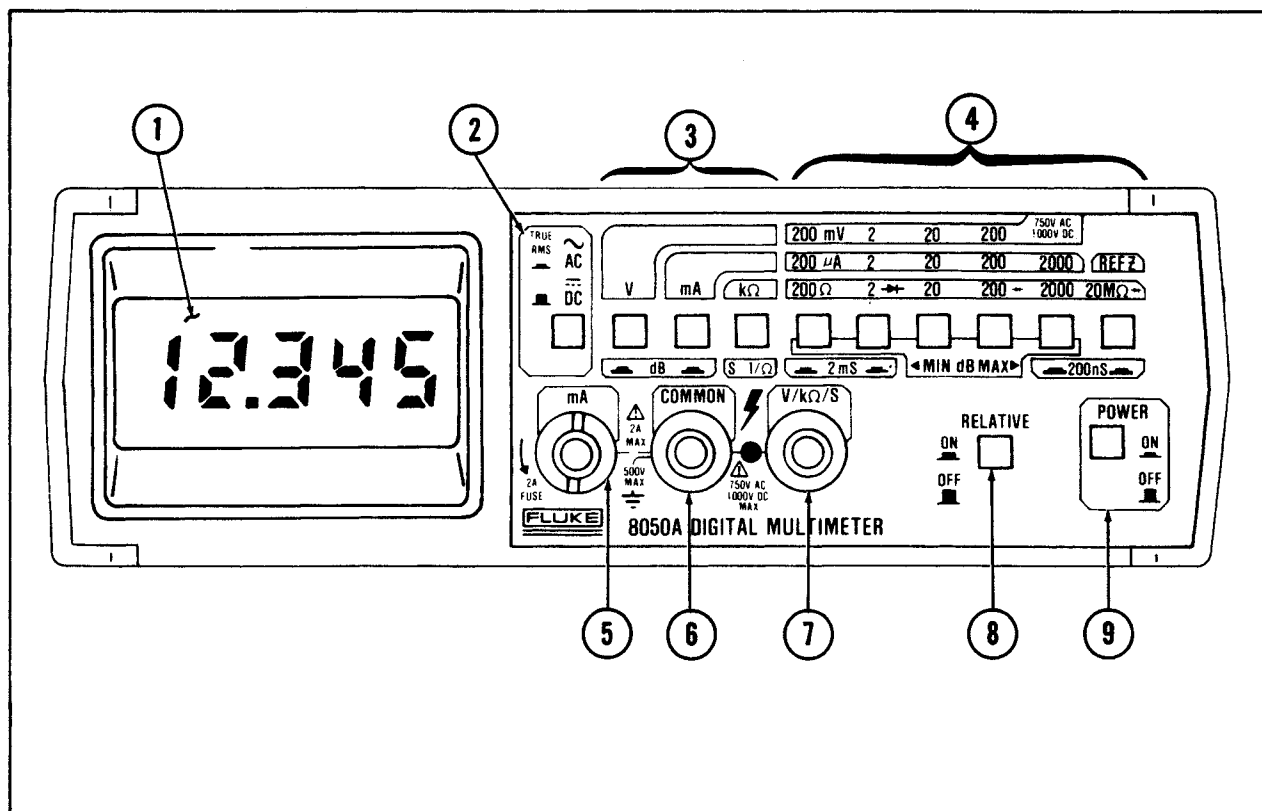

Figure 2-1. Controls, Indicators, and Connectors
3. Refer to Figure 2-1, item 5 for the location of the fuse holder. The fuse holder is an integral part of the mA input connector.
2-14. Before using your multimeter, take a few minutes to become familiar with the use of the controls, indicators, and connectors of the 8050A. The front panel features are shown in Figure 2-1 and described in Table 2-1. The features of the Liquid Crystal Display (LCD) are also described in the following paragraph.